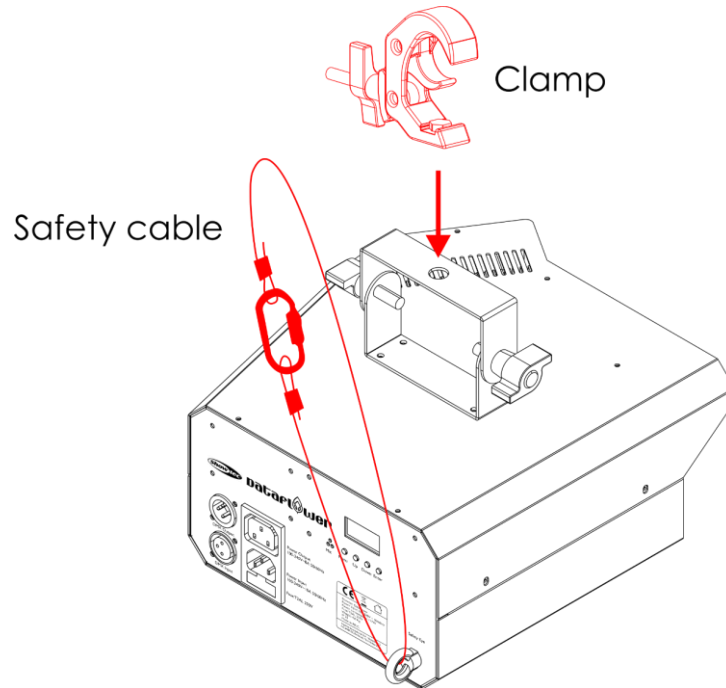

Fig. 06
- 01) Use a clamp to attach the device to the supporting structure, as shown in Fig. 06. Make sure that the device cannot move freely.
- 02) Secure the device with a secondary suspension, for example a safety cable. Make sure that the secondary suspension can hold 10 times the weight of the device. If possible, the secondary suspension should be attached to a supporting structure independent of the primary suspension. Put the safety cable through the **safety eye (10)**, as shown in Fig. 06.